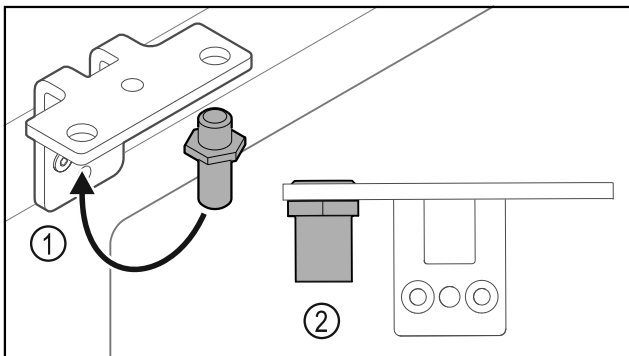

Fig. 26
- ▶ Put the pin back into the hinge Fig. 26 (1).
- ▶ Tighten the pin Fig. 26 (2) to a **torque of 12 Nm**.